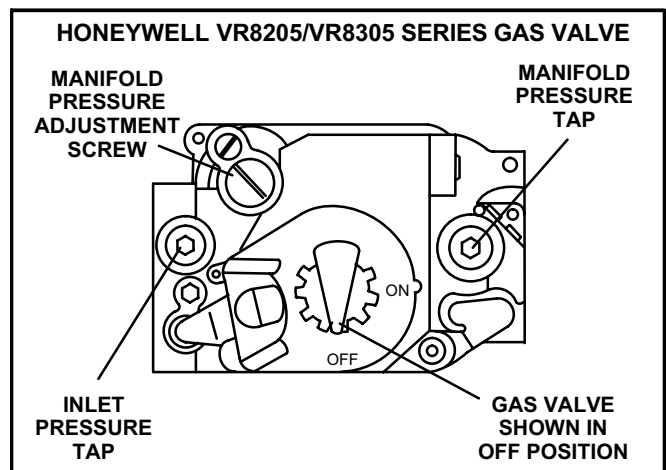

FIGURE 2
- 2 - After gas line pressure has been checked and adjusted, check manifold pressure at the pressure tap on the outlet side of the gas valve. The correct manifold pressure for LP/propane gas is given in table 1. Refer to figure 2 for gas manifold pressure adjustment screw location.